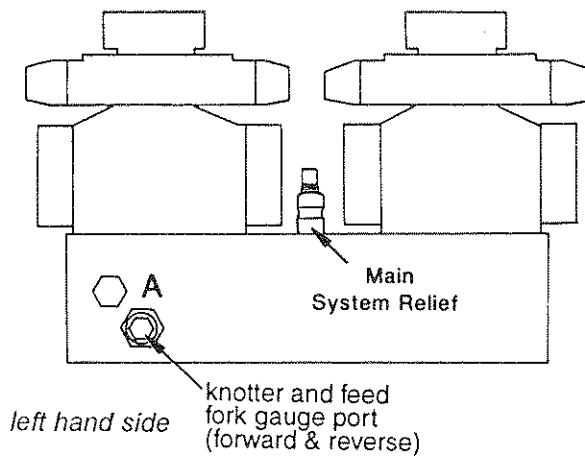
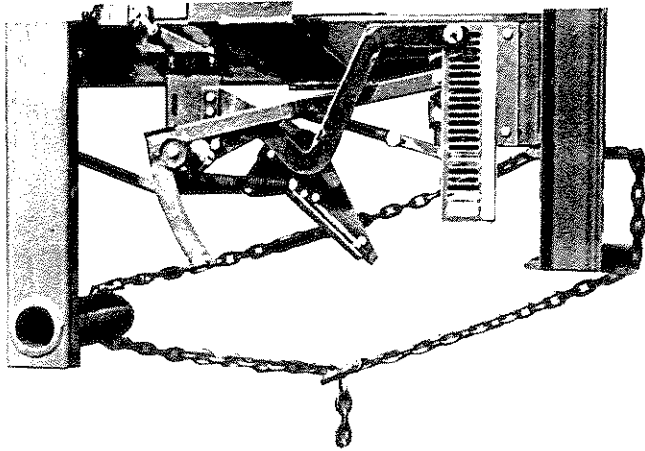

Fig. 57
Fig. 60
2. Remove the 1/4" JIC cap from gauge port (A), see Fig. 57.
3. Connect a 5,000 psi gauge to port (A).
6. Remove the 1/4" JIC cap from gauge port (A), see Fig. 57.
7. Connect a 5,000 psi gauge to port (A).
8. To prevent the knotter from moving in reverse, strap a 3/8" chain around the middle of the needle yoke to the frame, see Fig. 60. **NOTE:** Ensure that the 3/8" chain is in the middle of the needle yoke, this will prevent bending of the needle yoke.